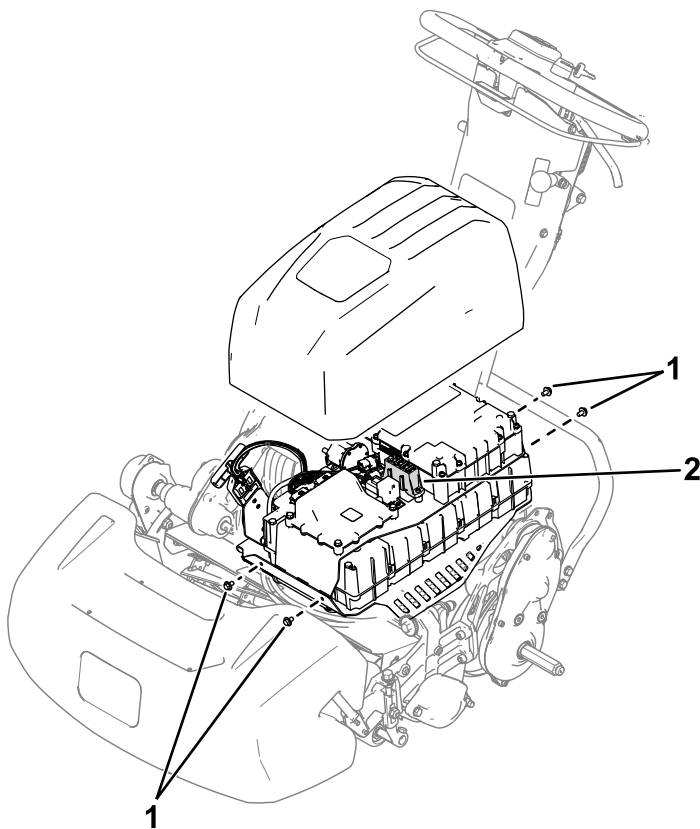

Figure 28
2. Remove the 4 screws (Figure 28) that secure the battery-pack cover and remove the cover.